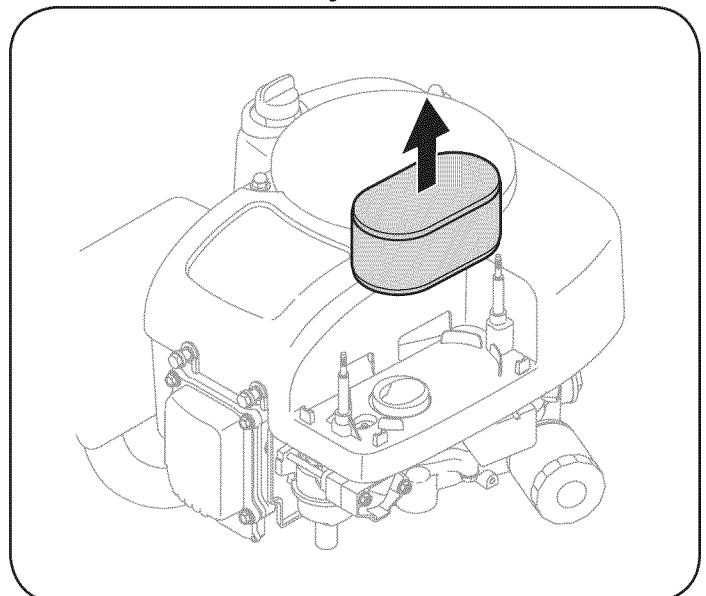

Figure 24
2. Remove the air filter. See Fig. 24.